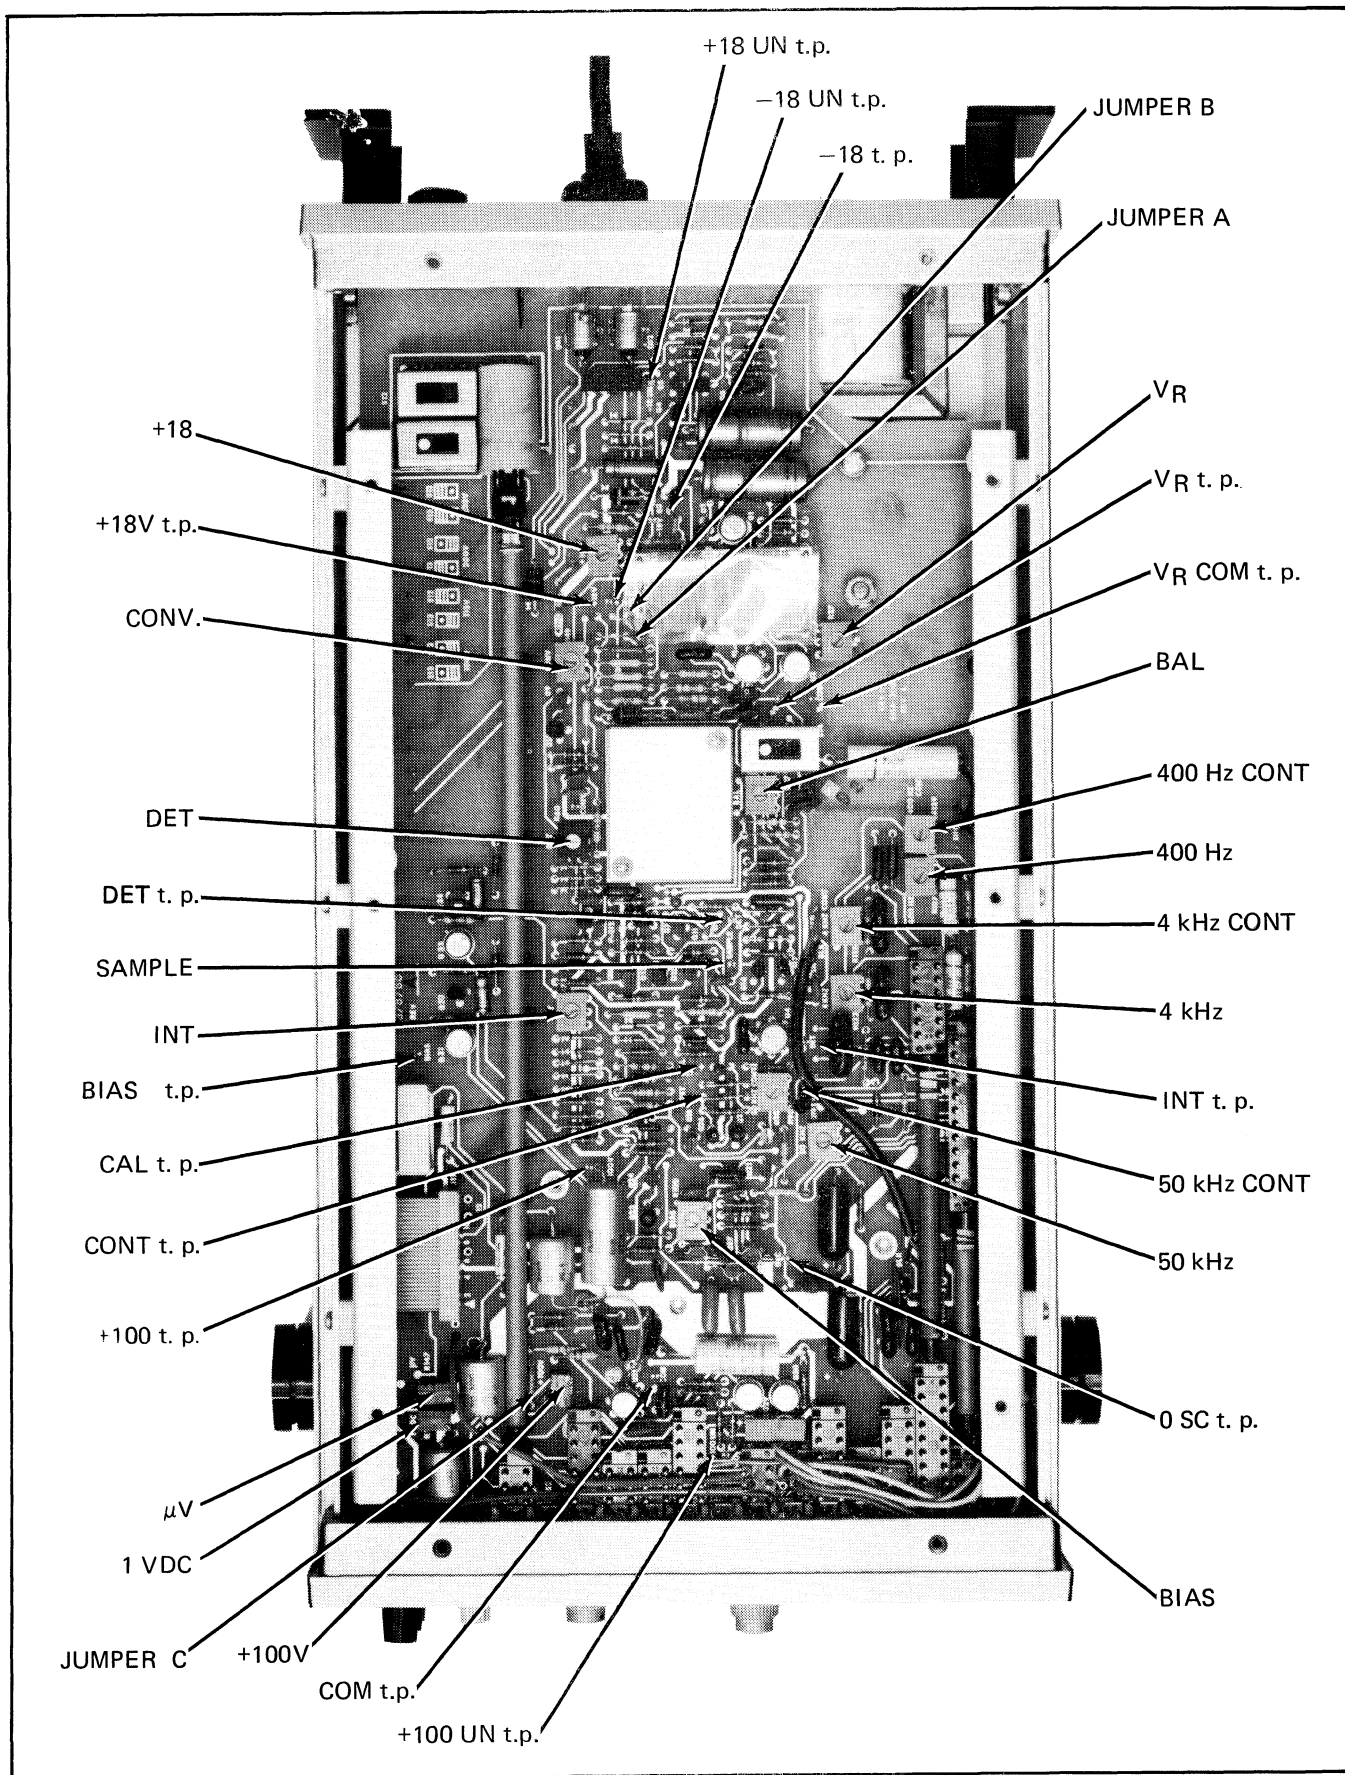

Figure 4-1 TOP VIEW.
- a. Turn off and disconnect the Model 515A. Remove the top dust cover and guard. Access is provided to all adjustments and test points shown in Figure 4-1.